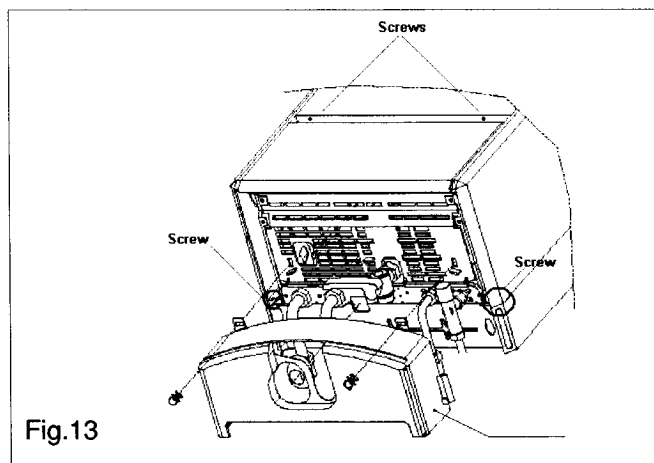

Fig. 13
- locate and remove the 2 screws that secure the controls fascia to the appliance casing (see fig. 13).
- locate and remove the 2 screws that secure the casing to the back frame of the boiler (see fig. 13).